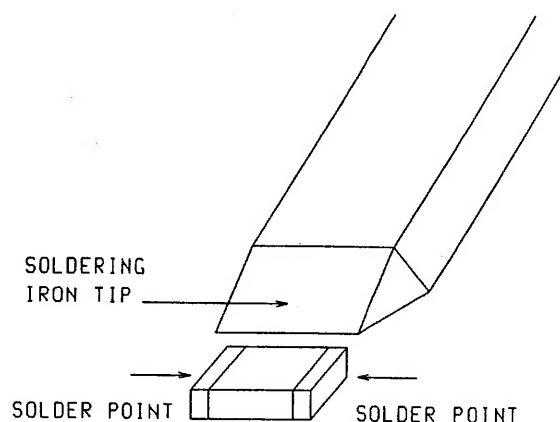

FIGURE 3
**OPTIONAL METHOD:** Use a wedge shaped soldering iron tip to melt the solder on both sides of the resistor at one time. As the solder melts, the chip resistor will lift from the board and stick to the soldering tip. Do not attempt to pry the chip resistor from the board. FIGURE 3